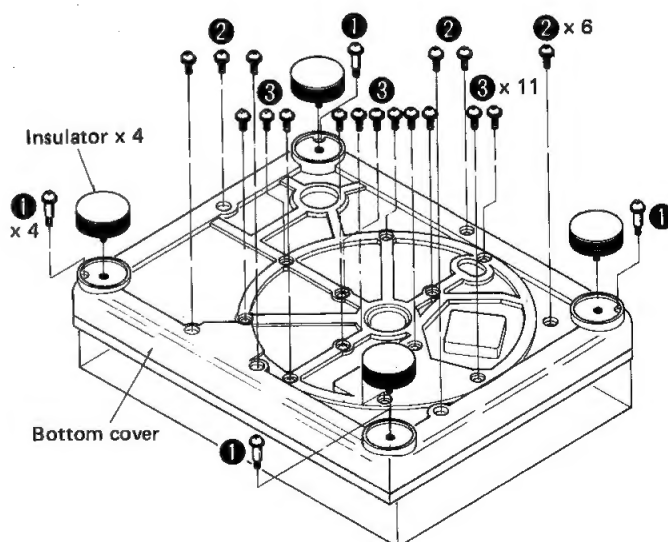

Fig. 1
3. Remove the insulators and the 21 setscrews (**Fig. 1 : ①, ②, ③**) of the bottom cover.